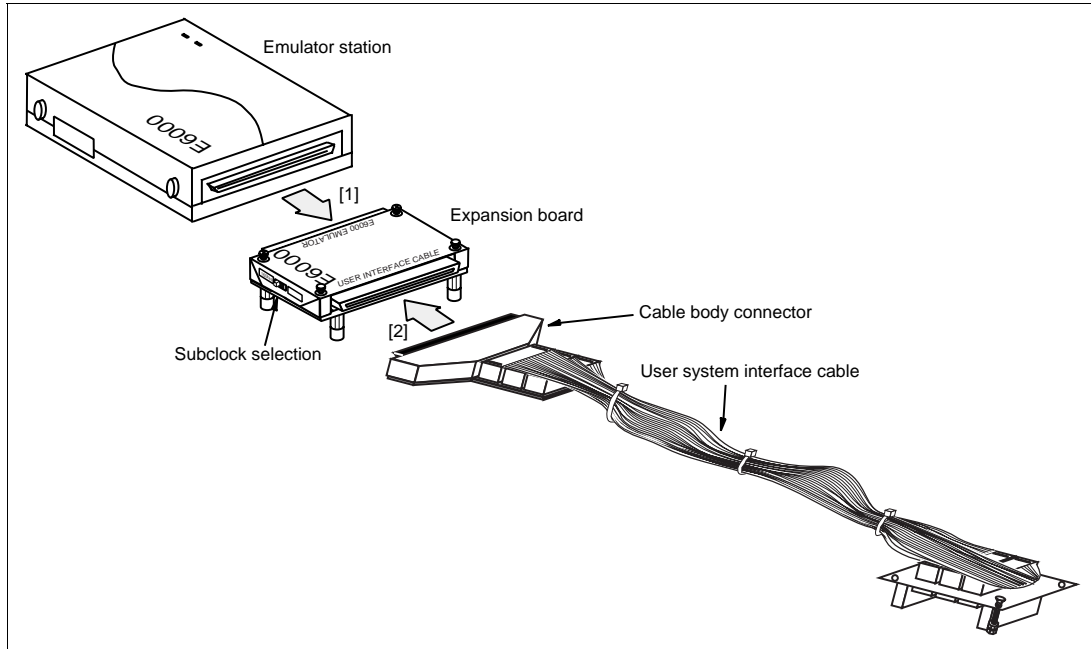

Figure 2 Connecting User System Interface Cable to Expansion Board
2. [1] After making sure the direction of the expansion board connector labeled E6000 EMULATOR is correct, firmly insert the expansion board connector into the emulator station connector labeled USER INTERFACE ([1] in figure 2).